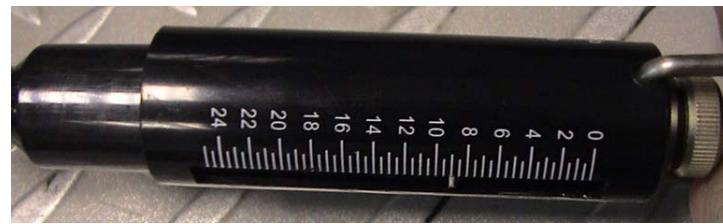

Figure 5-32: Scale
- 6 Pull the scales until 9kg ($\pm 1\text{kg}$) is achieved and tighten the three securing screws while you maintain this force (refer Figure 5-32).